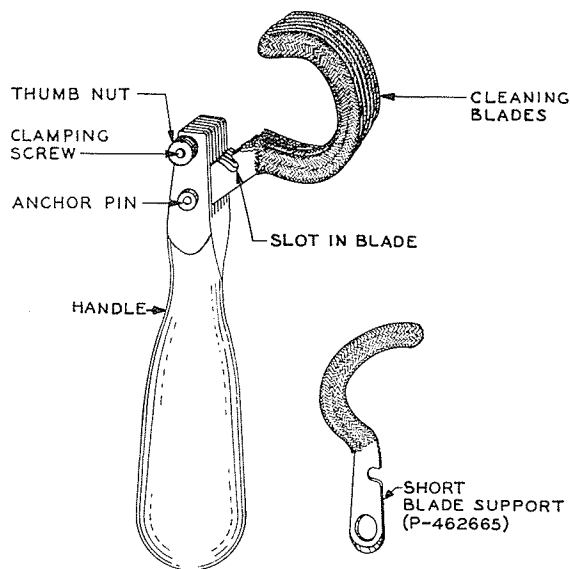

Fig. 10 – Method of Removing Blades From Bank Cleaners
**Note 2:** Use P-462665 short blade support shown in Fig. 10.
upper slot is free from the screw in the handle as shown in Fig. 10, and remove the blades from the handle.